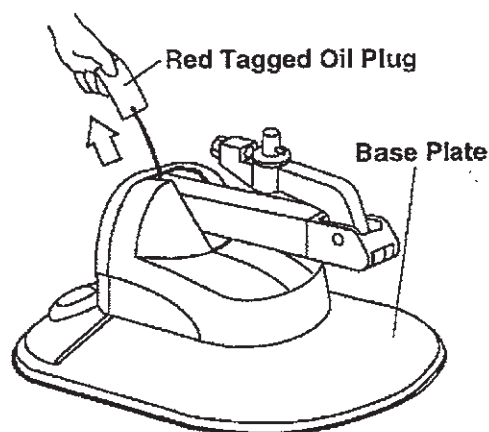

Fig.3-2 Red Tagged Oil Plug
- Lift up with holding the base plate and take out from the carton box. (Fig.3-2)
- Pull out the red tag and remove the oil plug. (Fig.3-2)